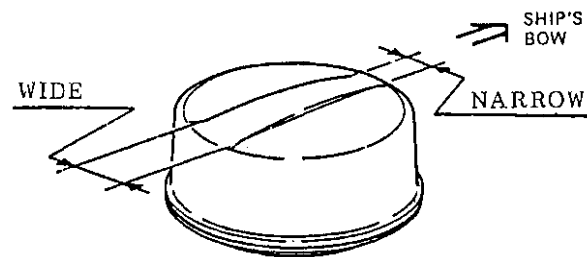

Fig.6-7 Radome Cover Placement
10. Put the radome on the radome base assembly, taking note of that the narrower recessed part should face in the direction of the bow. Fig.6-7.
10. Install the radome on the radome base assembly, being careful of its direction. The narrower recessed part should face the bow direction. See Fig.6-7.